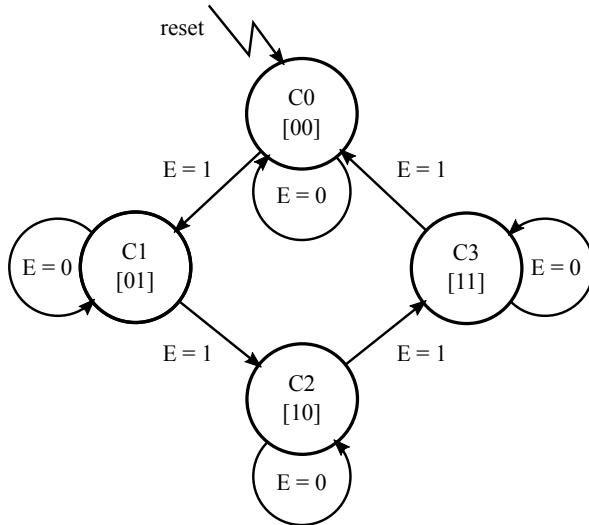

Figure 3.1: Finite State Diagram for 2-Bit Counter
In this assignment you're going to design a 2-bit counter which you will have to simulate in the lab using QuestaSim. The 2-bit counter should count up from 0 to 3 (denoted by count states C0 till C3 respectively) and is controlled by an external “enable” signal (E). If E is 1, the counter should increment on the rising clock edge. If E is 0, the counter should retain its value. The finite state diagram of the counter is shown in Figure 3.1.
- Derive expressions for Q_1^{n+1} , Q_0^{n+1} from the state table in Figure 3.1. The K-maps of Table 3.2 can be used for that.